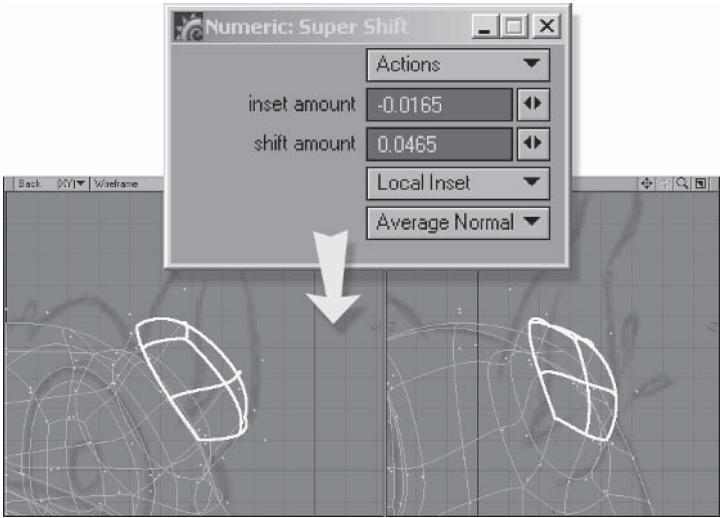

Figure 5.3-41. Creating the right shape for the base of the ears.
6. Select the polygons for the ear again and **Super Shift**, using the settings shown in Figure 5.3-41. **Move** and **Rotate** the polygons to fit the backdrops.